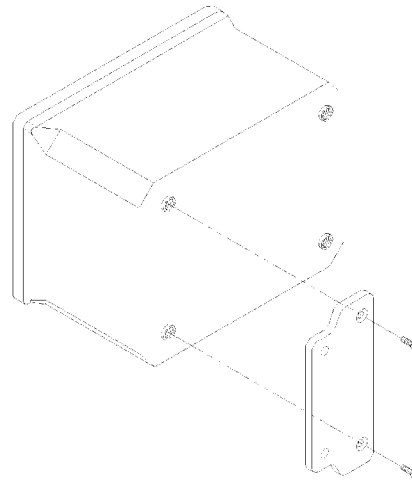

Figure 3-3 Attaching the Mounting Brackets
1. Loosely fasten the mounting brackets (included) to the back of the 5200 Monitor with the mounting screws provided as shown in Figure 3-3.